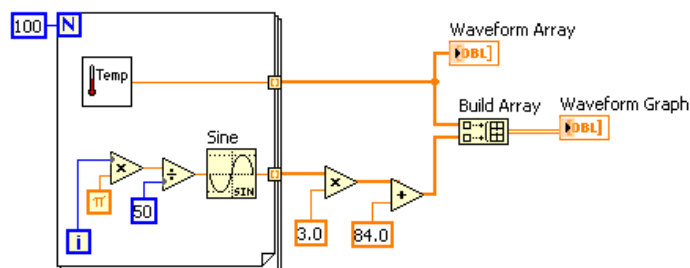

Figure 7.20
3. Return to the block diagram. Create a multiple-plot waveform graph by building a 2D array of the data type normally passed to a single-plot graph. Modify the block diagram as shown in Figure 7.20.
- d. Wire the block diagram as shown Figure 7.20.